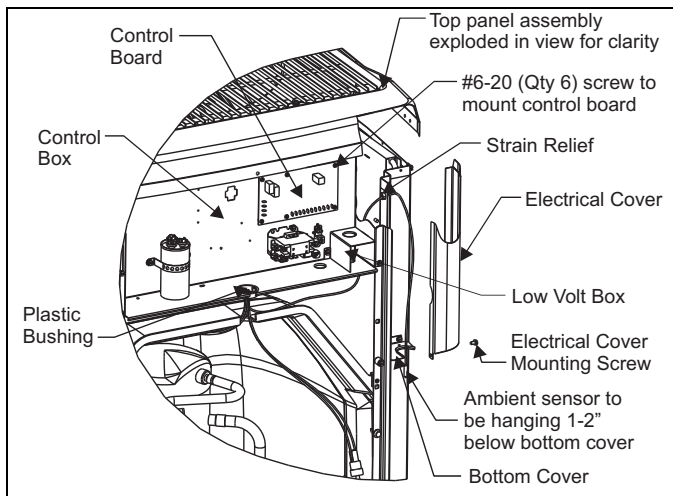

FIGURE 1: Control Panel
3. Take the six 5935 #6-20 screws and attach the 501264 control board to the upper right corner of the control box. See Figure 1.
- a. Remove electrical cover on service valve corner-post. See Figure 1.
- b. Route ambient sensor through plastic bushing in the bottom of the control box. Route wires/sensor toward the top of the service valve corner-post and push ambient sensor through hole in the top of the corner-post. Run the ambient sensor through the bottom of the electrical cover and let hang in air 1-2" below the bottom of the cover. See Figure 1.
- c. Take 7304 strain relief and secure the ambient sensor wire in the hole on the top of the service valve corner-post. See Figure 1.